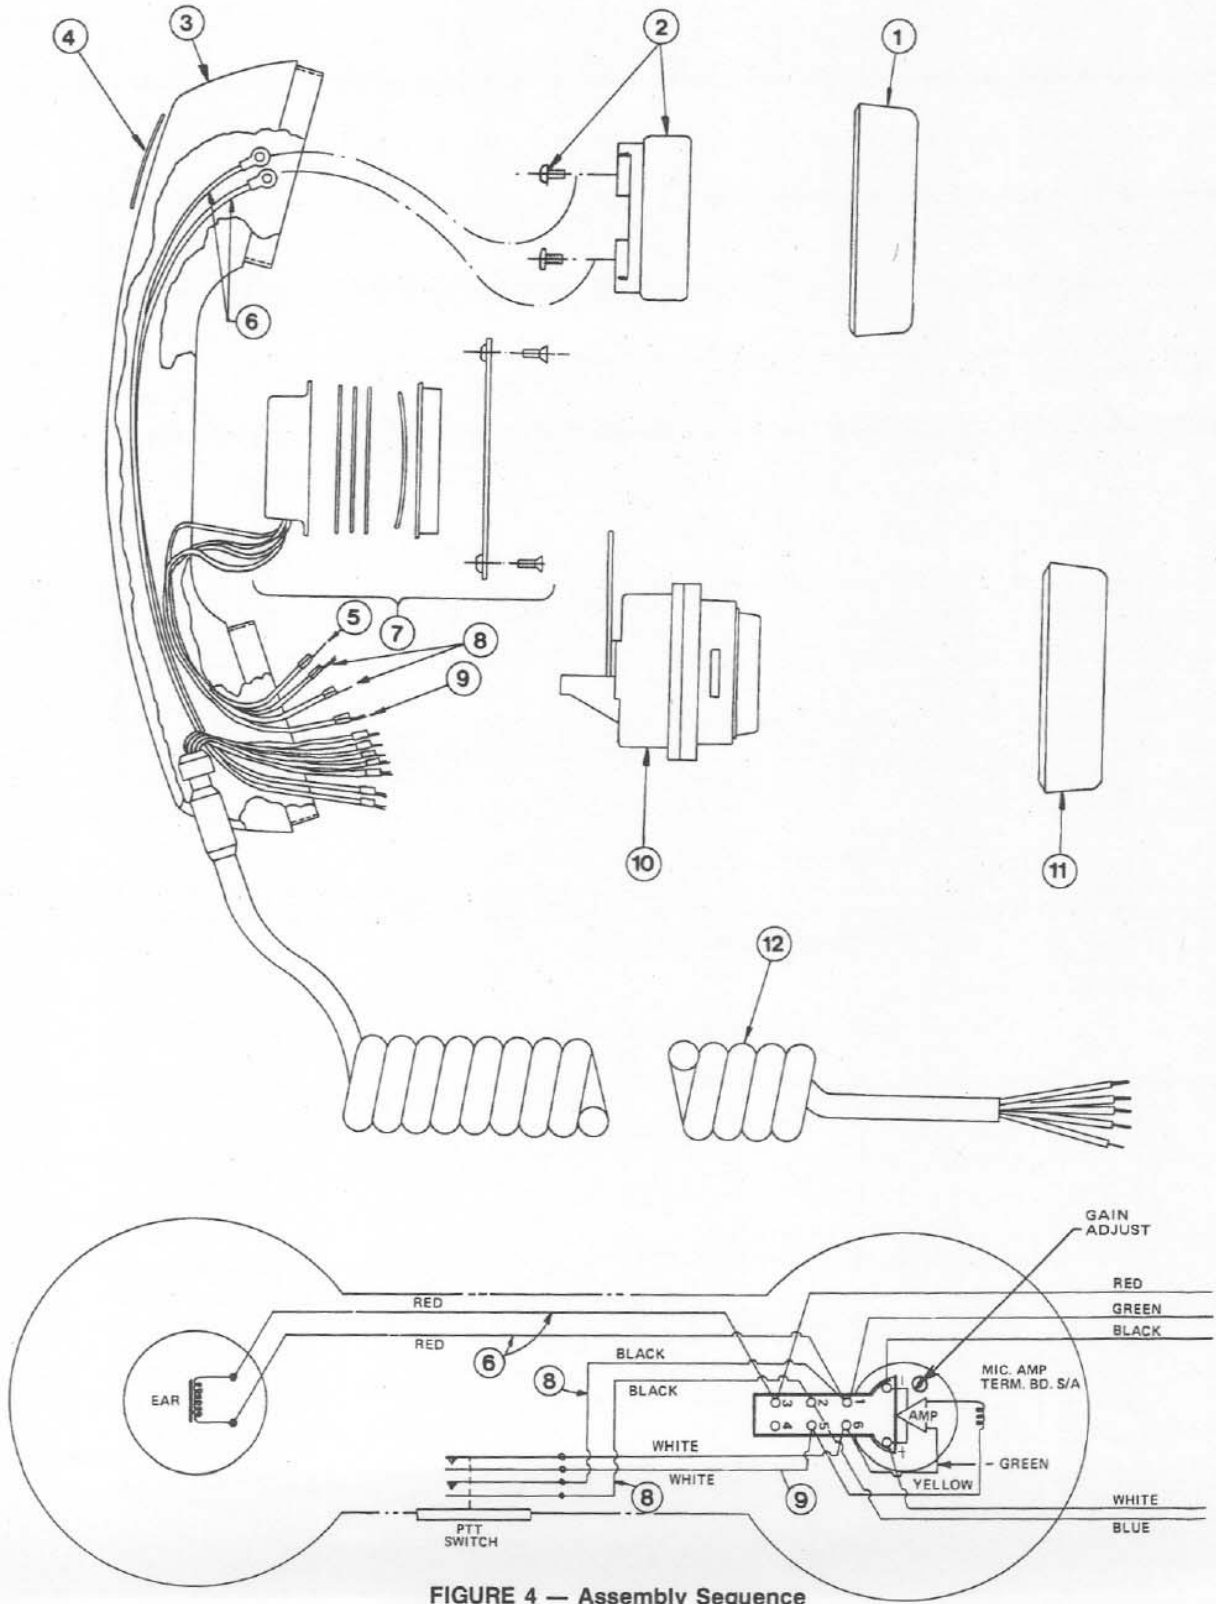

FIGURE 4 — Assembly Sequence
2. **Disassembly:** (See Figure 4)